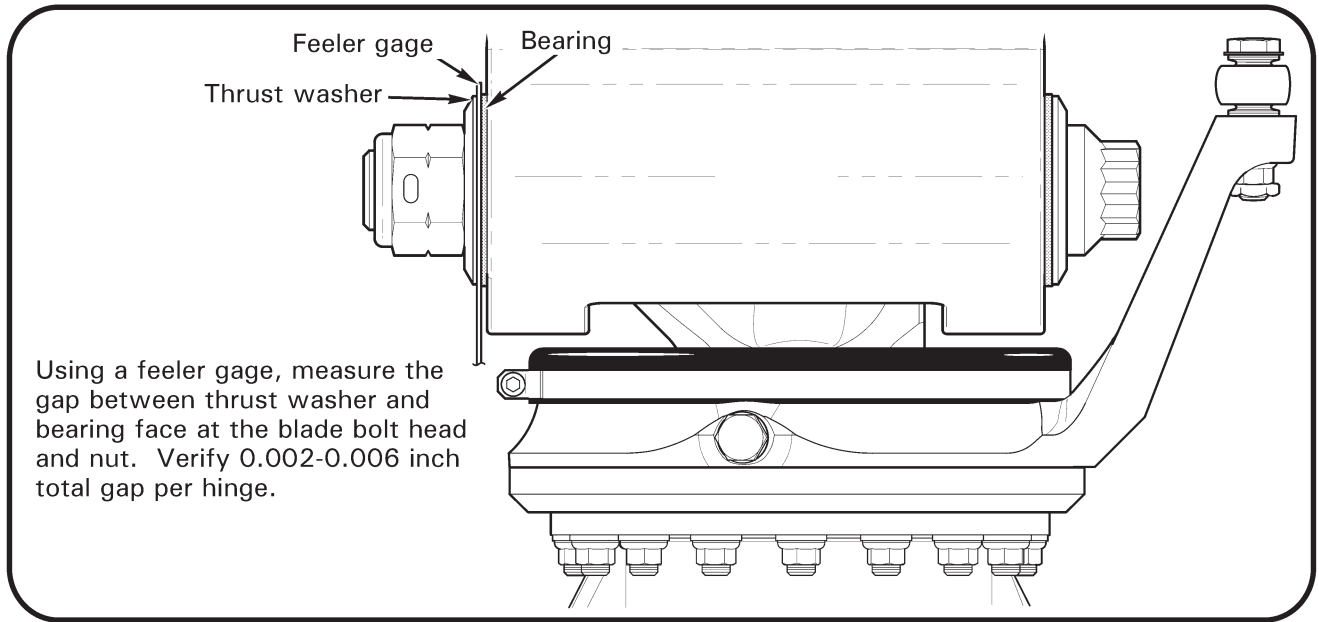

FIGURE 62-7A MEASURING CONING HINGE AXIAL CLEARANCE
- 5. Adjust shim stack as required to meet coning hinge axial gap requirement per Figure 62-7A and to maintain teeter friction requirement as follows: It must be possible to manually cone each blade without teetering the hub when blades are held up off the droop stops and lifted at tip. Increasing shim stack-up decreases hinge friction.